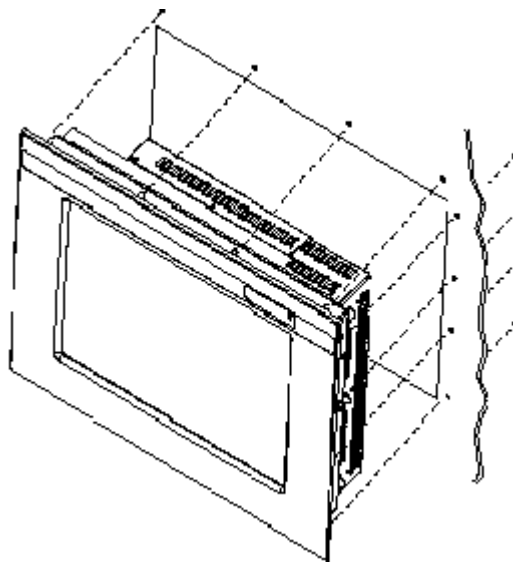

Figure 2: Panel Mount Drawing
1. Cut and drill the panel (refer to Figure 2; Panel Mount Drawing Appendix D). Measurements are in inches. A template of the hole pattern has been supplied with your monitor to assist in making the mounting holes accurately. Also, there is an AutoCad .dxf file included on the provided CD. This computer file can be used in a design drawing or forwarded to your panel fabricator for the proper mounting